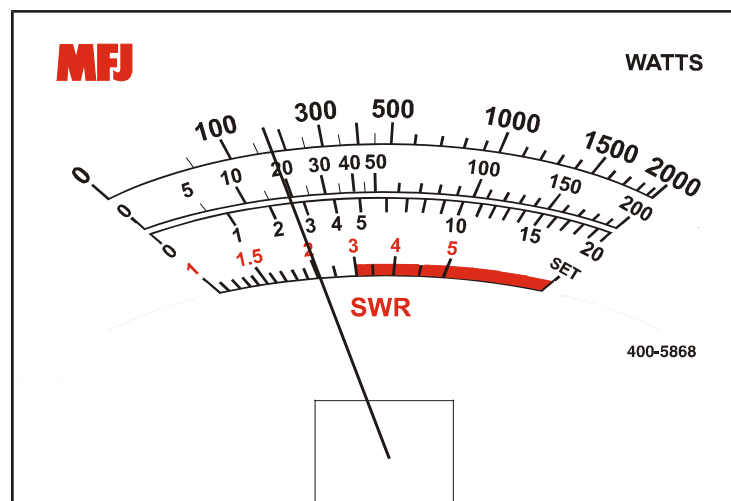

Figure 2: Power and Standing Wave Ratio Scales for MFJ-868 Giant SWR/Wattmeter
1. The MFJ-868 Giant SWR/Wattmeter has three power scales. Refer to Figure 2 below for scale location and scale mark representation.
1. The **MFJ-868 Giant SWR/Wattmeter** has one standing wave ratio scale. Refer to Figure 2 above for scale location and scale mark representation.